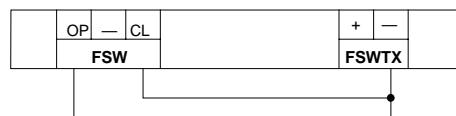

Fig. 16
**N.B.: If opening safety devices are not connected, jumper inputs OP and -FSW TX (fig. 16).**
**N.B.: If closing safety devices are not connected, jumper inputs CL and -FSWTX (fig. 16).**